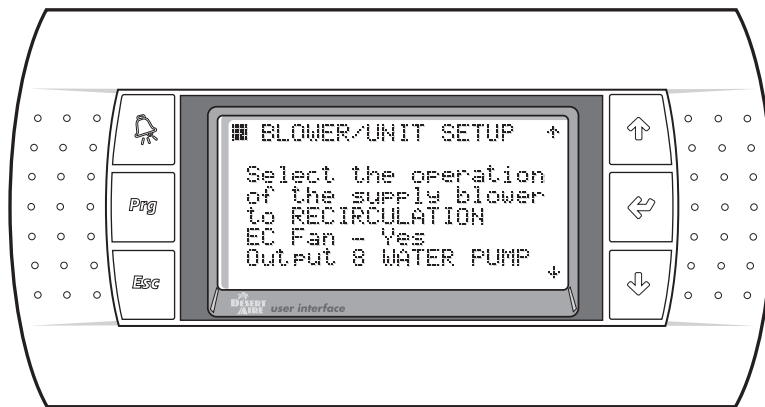

Figure 25
2.4.1. Blower/Unit Setup (Figure 25)